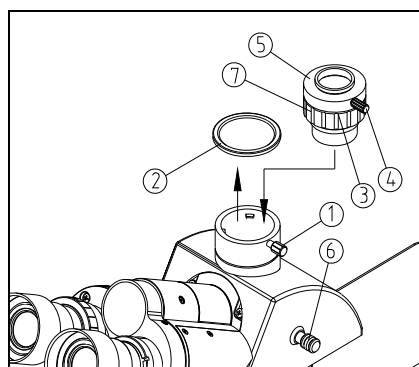

Fig.36
- (1) Loosen the lock screw① of trinocular head, take out the dust-cover②. (See Fig. 36)
- (2) Take down the dust-cover of the TV adapter③. Insert the TV adapter into the trinocular head according to the figure and screw down the lock screw①.
- (3) Loosen the lock-screw④ of the TV adapter. Take down the vidicon interface (C type) ⑤ from the TV adapter, and screw in the CCD or vidicon. Then install the interface with CCD or vidicon into the TV adapter, and screw down the lock-screw④.
- (4) Do binocular observation, after the image is clear, pull the light path selecting pole⑥ to the outmost and observe the image. If the image is unclear, rotate the adjustment tube⑦ to focus, until it is clear.